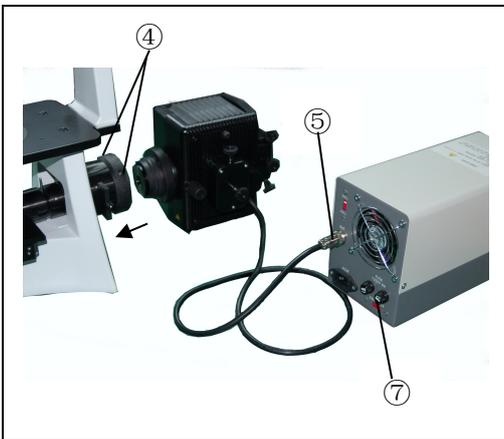

Fig 12
**2.2.8 Assembly of the Fluorescent Attachment , Cable and Cord Connections (Fig 12, 13)**
**2.2.9 Fuse Replacement (Fig 12, 13)**